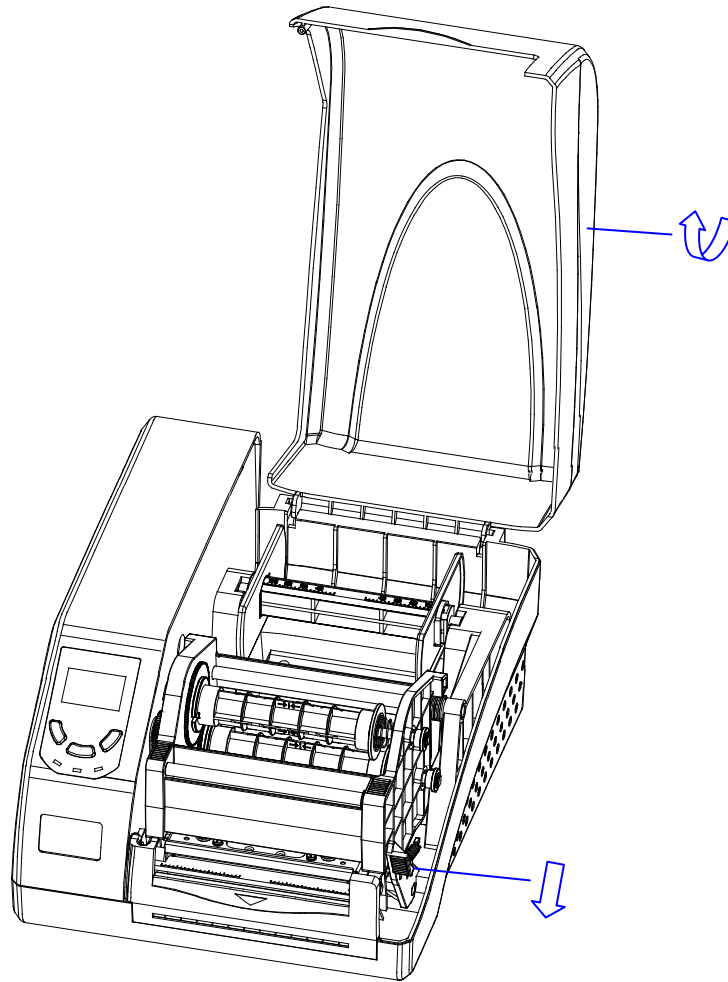

Figure 5-1
1. Lift the top cover and push down the Printhead Release Lever to release the Printhead Module (see Figure 5-1).